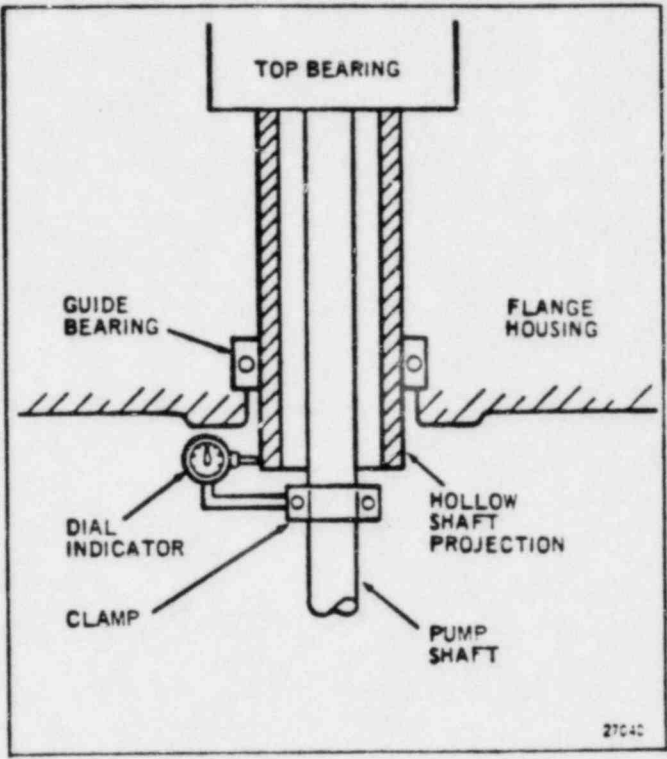

Figure 2-2 - Hollow shaft alignment.
1. Clamp dial indicator to pump shaft, align with base-bolt plane and set dial indicator to zero (Fig. 2-2).